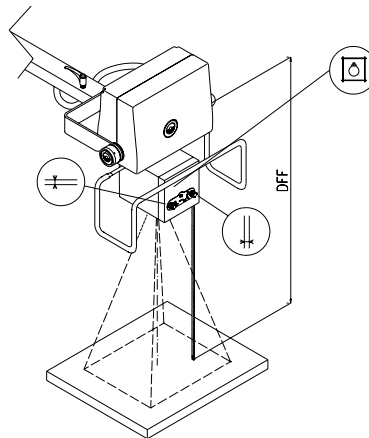

Figure 12
1. On the frontal panel of the collimator, there are two knobs for the beam adjustment (width and length) as well as the push-button to turn ON the collimator lamp (see Figure 12). It is possible to turn the lamp ON by pressing the COLLIMATOR push-button placed on the control panel.